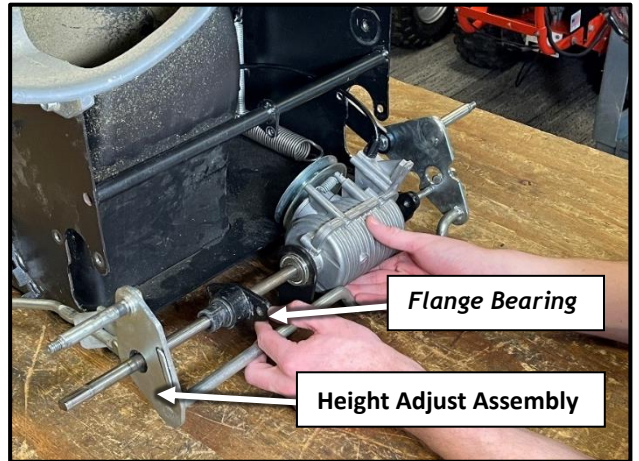

Figure 8
- Push the Flange Bearing back so that you can shift the Transmission and Axle to separate them from the Height Adjust Assembly (**Figure 8**).